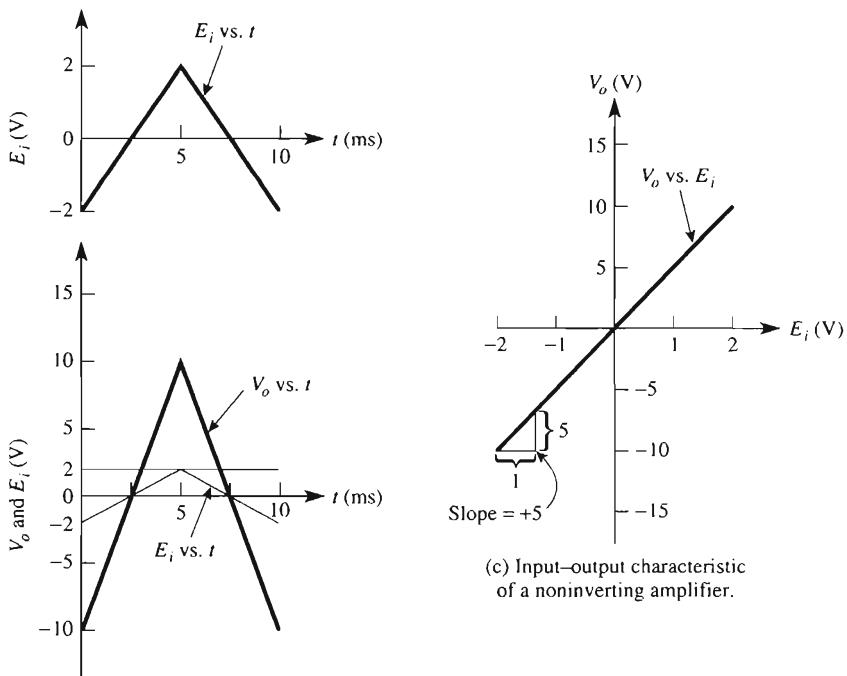

FIGURE 3-8 Noninverting amplifier circuit analysis for Example 3-13.
- (a) Find the voltage gain for the noninverting amplifier of Fig. 3-8. If E_i is a 100-Hz triangle wave with a 2-V peak, plot (b) V_o vs. t ; (c) V_o vs. E_i .
(b) See Fig. 3-8(b). These are the waveshapes that would be seen on a dc-coupled, dual-trace oscilloscope.
(c) See Fig. 3-8(c). Set an oscilloscope for an $x-y$ display, vertical 5 V/div, horizontal 1 V/div. Note that the slope rises to the right and is positive. Rise over run gives you the gain magnitude of +5.